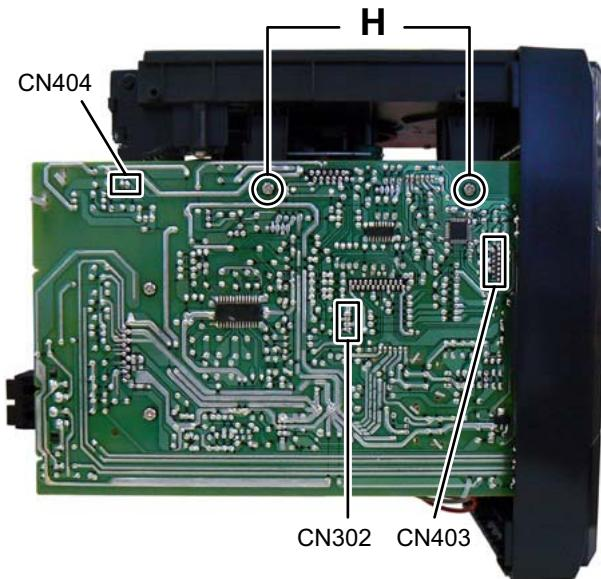

Fig.9
- (2) Disconnect the connector wire from DOOR SWITCH connected to connector CN404 of the MAIN BOARD assembly. (See Fig.9)
- (3) Disconnect the connector wire from CONTROL BOARD assembly connected to connector CN403 of the MAIN BOARD assembly. (See Fig.9)
- (4) Disconnect the connector wire from USB BOARD assembly connected to connector CN302 of the MAIN BOARD assembly. (See Fig.9)
- (5) Remove the two screws **H** attaching the MAIN BOARD assembly. (See Fig.9)